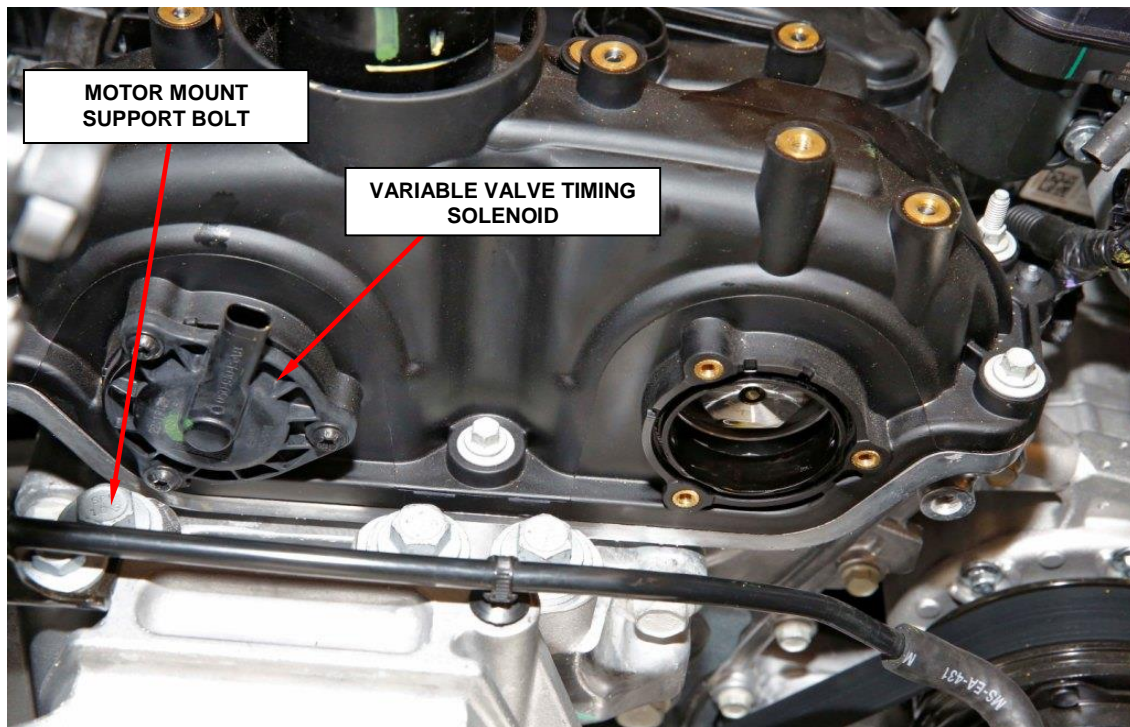

Figure 14 – VVT Removal
39. Disconnect the electrical connector from the variable valve timing solenoids (VVT) and remove both VVTs and the gaskets (Figure 14).
40. Remove the left outer motor mount support bracket bolts to gain access to the left lower VVT fastener (Figure 14).